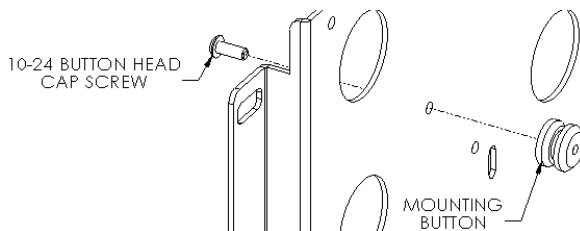
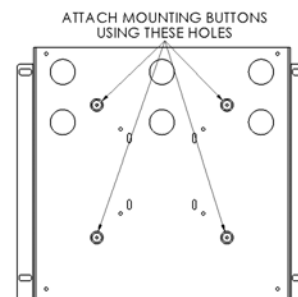

Figure 2
Figure 3
- Chief Q-latch Button Installation (Used with MSR, MTR, MWH, MWR, MCS and MCD mounts):** Using a 10-24 button head cap screw inserted from back side of bracket, secure mounting button, with chamfered hole of mounting button (larger surface) facing bracket, bracket (four places) (see Figure 2 and Figure 3).